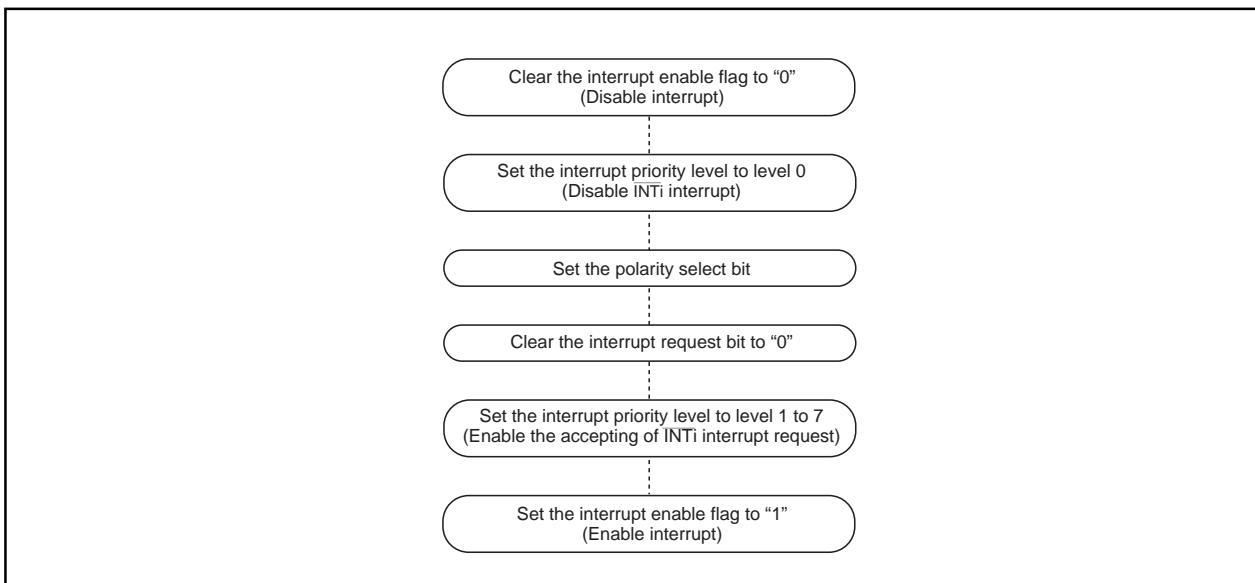

Figure DD-13. Switching condition of  $\overline{\text{INT}}$  interrupt request
- When the polarity of the  $\overline{\text{INT}}_0$  through  $\overline{\text{INT}}_5$  pins is changed, the interrupt request bit is sometimes set to "1". After changing the polarity, set the interrupt request bit to "0". Figure DD-13 shows the procedure for changing the  $\overline{\text{INT}}$  interrupt generate factor.